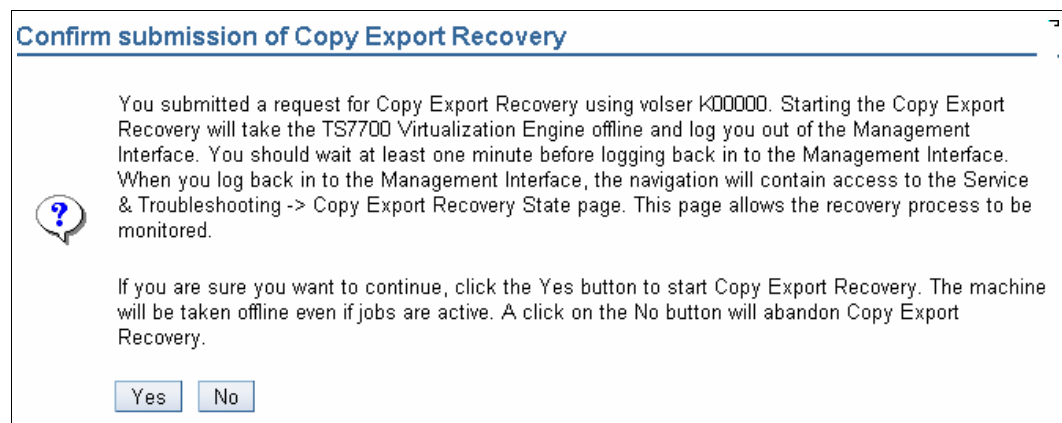

Figure 10-17 Confirm submission of Copy Export Recovery window
10. The window shown in Figure 10-17 opens. It indicates the volume that will be used to restore the database. If you want to continue with the recovery process, click **Yes**. To abandon the recovery process, click **No**.